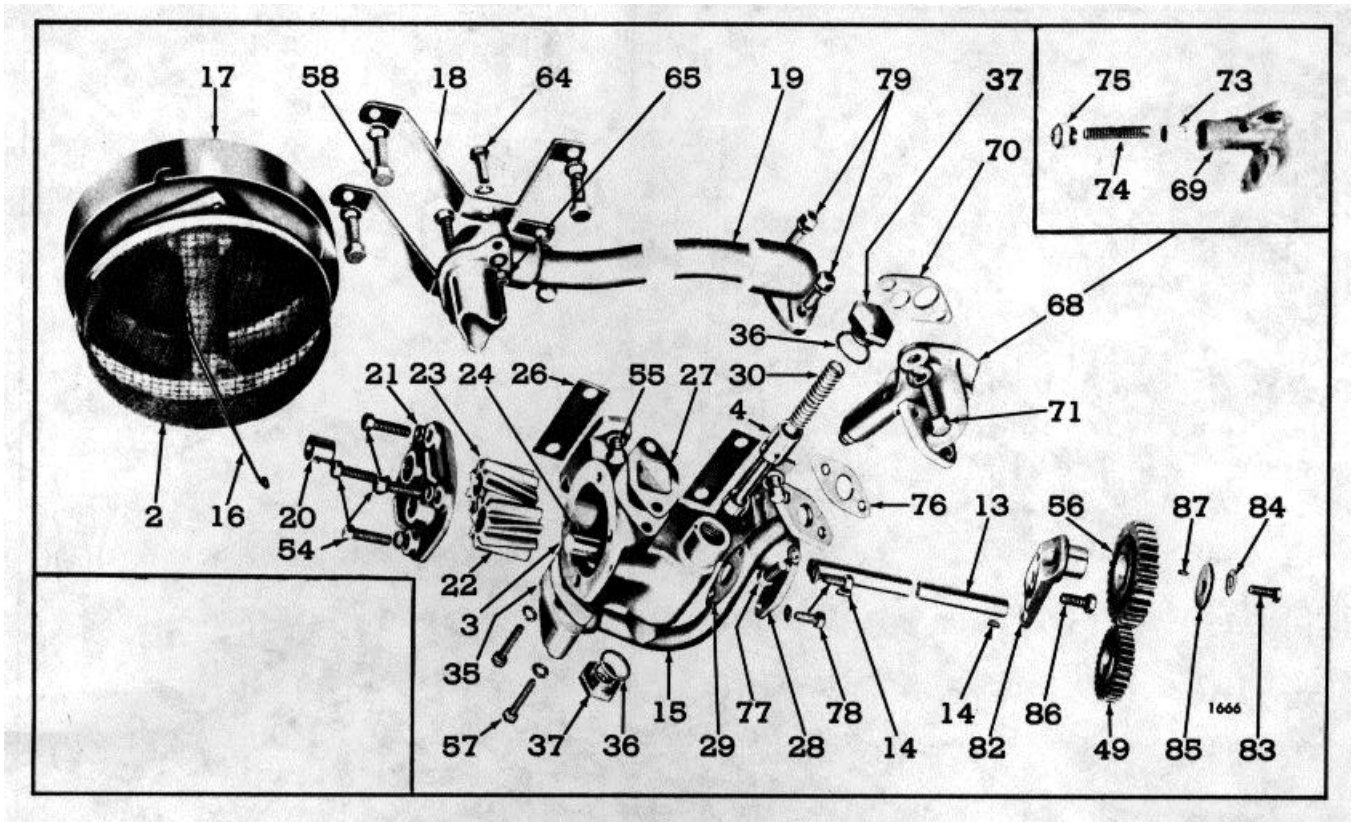
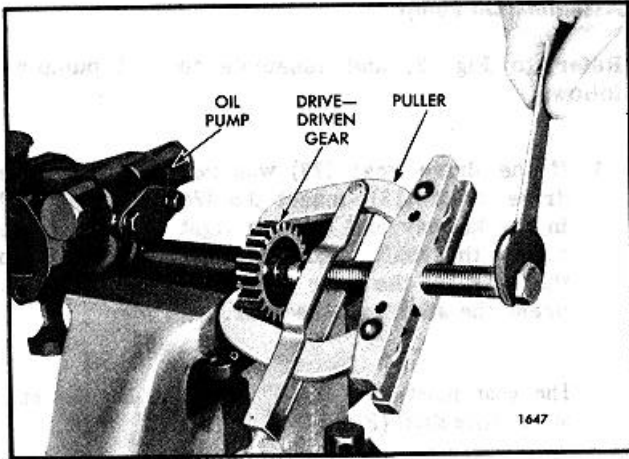
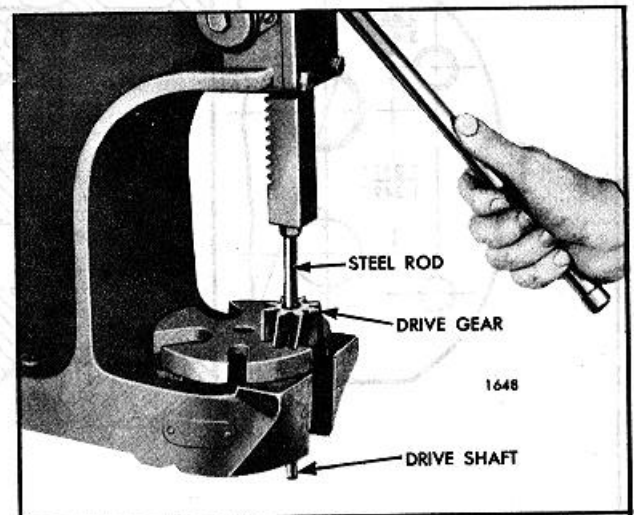

Fig. 3 - Oil Pump Details and Relative Location of Parts.
Fig. 4 - Removing Oil Pump Drive-Driven Gear from Shaft.
Fig. 5 - Removing Oil Pump Drive Gear from Shaft.
1. Remove the oil pump inlet pipe (19) with the screen cover and mounting brackets.
2. Remove the oil pressure regulator and the oil pump outlet pipe (15) as an assembly from the pump body (3).
3. Remove the four bolts and lock washers securing the cover to the oil pump body (3).
4. Remove the valve plugs (37) and copper gaskets (36) from each side of the pump body, and jar the relief valve parts from the body (Fig. 3).
5. Remove the pump driven gear (22) from the driven gear shaft (24).
6. Straighten the lip of the lock washer (84) and unscrew the bolt (83) thus freeing the idler gear (56).
7. Clamp the pump body, drive shaft and gear assembly in a bench vise. Pull the driven gear from the outer end of the pump drive shaft as shown in Fig. 4.
8. Remove the Woodruff key (14) from the drive shaft and withdraw the shaft and driven gear (22) from the pump body.
9. Unscrew the bolt (86) and remove the idler gear support (82) from the pump body.
10. If the drive gear (23) is to be replaced, position the gear and shaft assembly on bed of arbor press with long end of shaft extending down through slot in bed plate and with the face of the gear resting on the plate as shown in Fig. 5. Place a short 1/2" round steel rod on the end of the shaft, and press the shaft from the gear.
Refer to Fig. 3, and assemble the oil pump as follows:
1. If the drive gear (23) was removed from the drive shaft (13), insert the Woodruff key (14) in the keyway and apply a light coat of engine oil on the shaft. Start the shaft squarely into the bore of the gear and, as shown in Fig. 5, press the shaft into the gear.